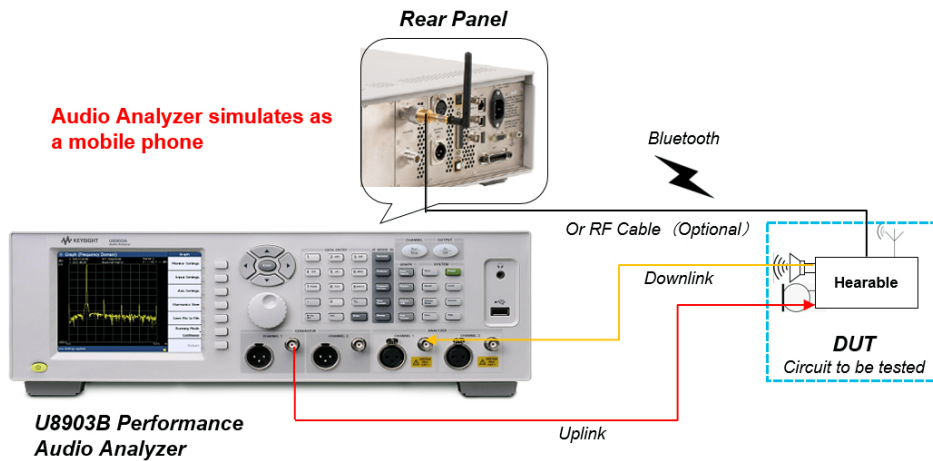

Figure 4. Testing hearable phone call quality and phone call handling
- Set up the *Bluetooth* link between the U8903B performance audio analyzer and the hearable, which is the device under test (DUT), as shown in Figure 4.
- Connect the U8903B to the DUT, the hearable, as shown in Figure 4. During the product development period, the test points on the circuit should be available. You can connect the U8903B *Bluetooth* RF connector to the DUT with an RF cable. If an RF connection is not available on the DUT, use the wireless link. Connect the U8903B audio analyzer output (generator) to the DUT's microphone input and connect the audio analyzer input (analyzer) to the DUT's speaker output.